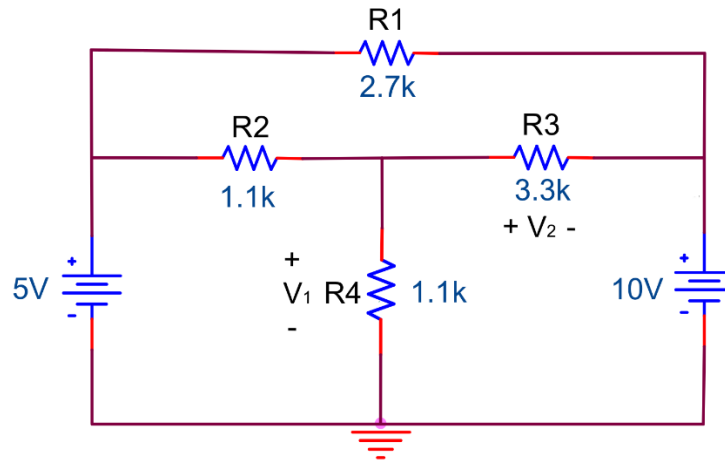

Figure 6.7
4. For Figure 6.7 calculate V_1 and V_2 utilizing the superposition principle.